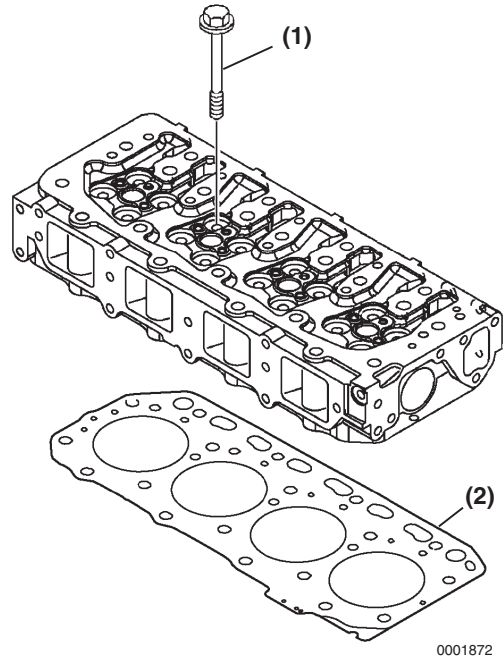

Figure 6-44
2. Remove the cylinder head bolts **(Figure 6-44, (1))**.
3. Lift the cylinder head away from the cylinder block. Discard the cylinder head gasket **(Figure 6-44, (2))**. Place the cylinder head on the work bench to prevent damage to the combustion surface.